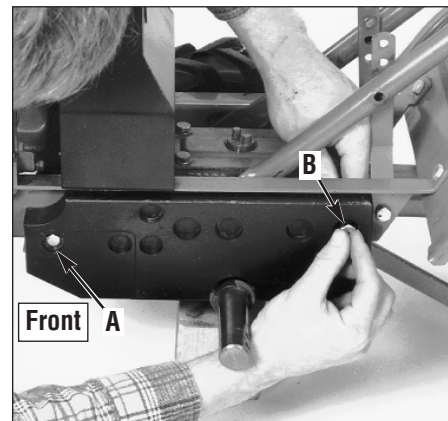

Figure 3: (A) 1/4" screw and flat washer. (B) 5/16" screw and flat washer.
5. Put a 1/4" flat washer onto one of the 1/4-20 x 1-1/2" screws and install the screw through the front hole in the frame weight and the transmission pan (A, Figure 3). Then thread the screw into the threaded hole in the frame rail. Do not fully tighten this screw yet.
6. Put a 5/16" flat washer onto one of the 5/16-18 x 1-1/2" screws and install the screw into the rear hole of the frame weight (B, Figure 3).